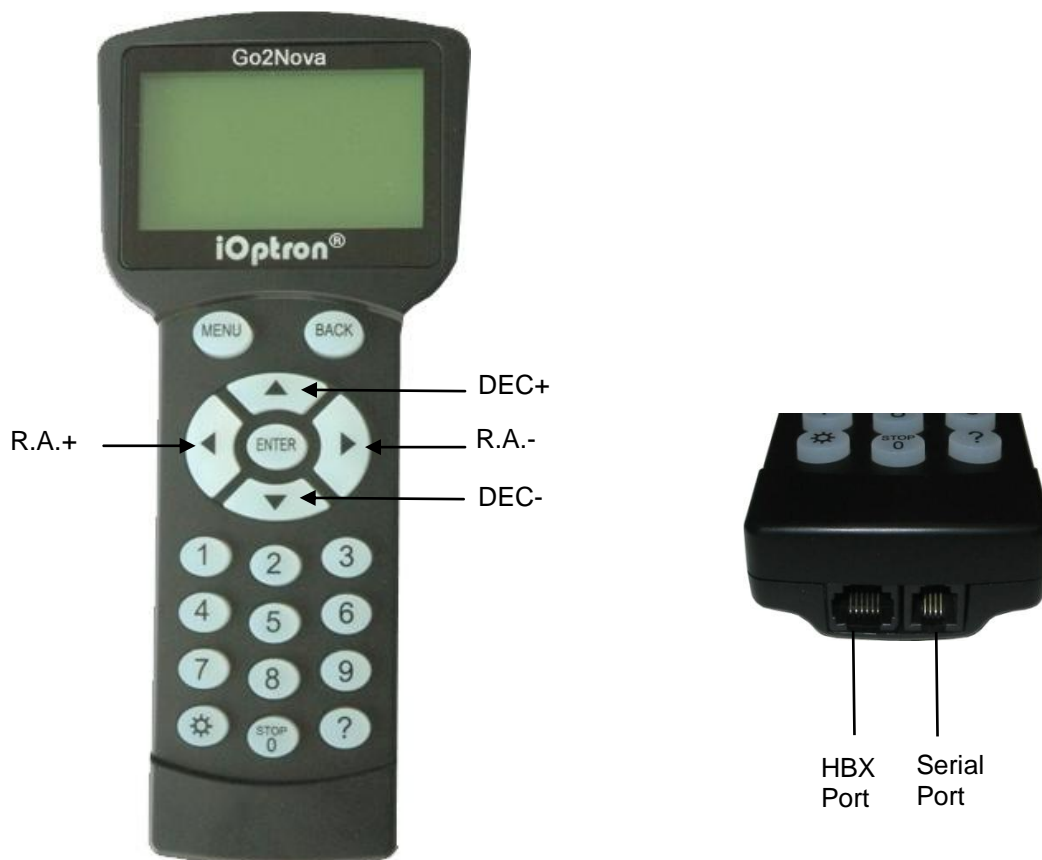

Figure 8. Go2Nova® 8407+ hand controller
The Go2Nova® 8407+ hand controller (HC) shown in Figure 8 is the standard controller used on the CEM70 mount. It has an integrated heater that ensures the LCD display will work at the temperature as low as -20°C (-4°F). It has a large LCD screen, function, direction, and number keys on the front; a red LED reading light on the back; and a HBX (6-pin) and a serial port (4-pin) at the bottom.